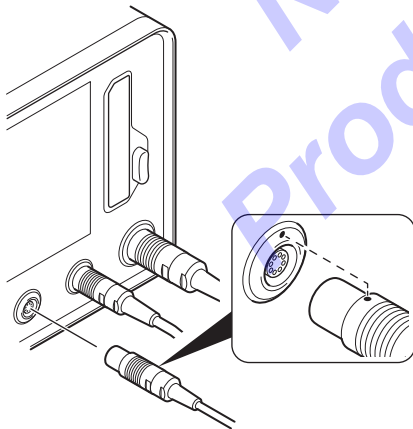

Figure 99 – Hand Controller Connection
1. Install the hand controller cable connector into the console port (Figure 99).